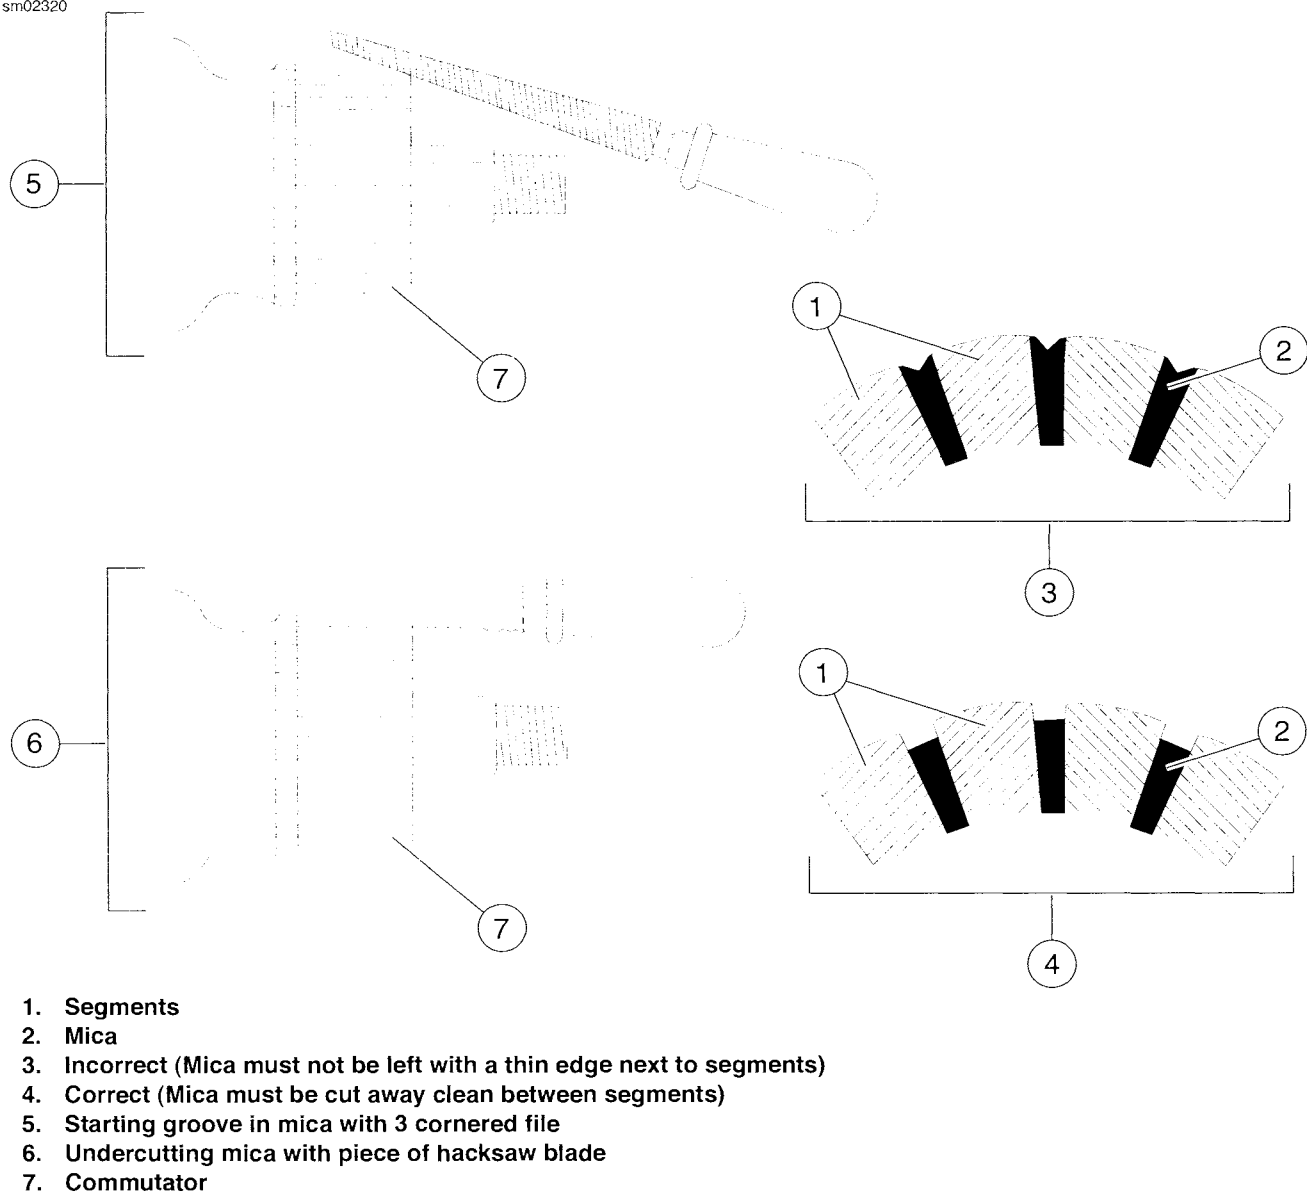

Figure 7-23. Undercutting Mica Separators
- See Figure 7-23. If an undercutting machine is not available, undercutting can be done satisfactorily using a thin hacksaw blade. After undercutting, lightly sand the armature with crocus cloth to remove any burrs.